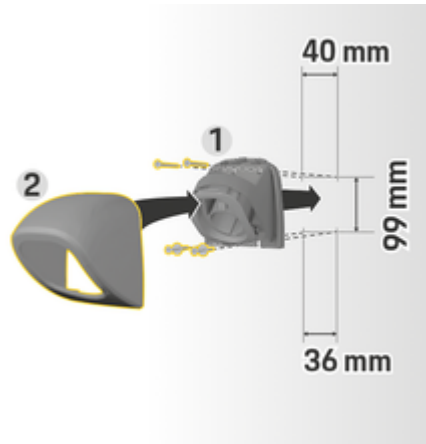

Fig. 5: Drilling dimensions
1. Remove plug holder 1 from the cover (Fig. 5) 2 (Fig. 5).
4. Screw the plug holder 1 (Fig. 5) to the wall.
5. Fit the cover 2 (Fig. 5) onto the plug holder 1 (Fig. 5) from below and press it upwards.